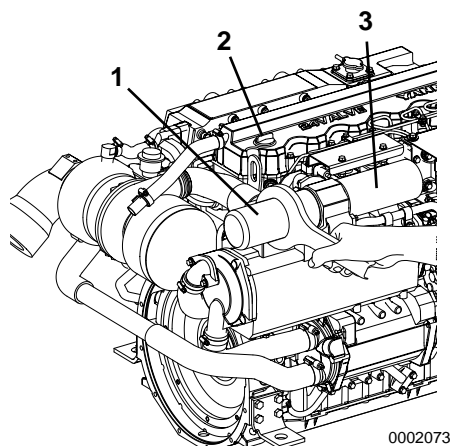

Figure 2
For easier draining, remove the engine oil fill cap (**Figure 2, (2)**) (yellow) at the top of the rocker arm cover. Dispose of used oil properly. NOTICE: **ALWAYS** be environmentally responsible.
3. Remove the engine oil filter (**Figure 2, (1)**) with a filter wrench (turn counterclockwise).